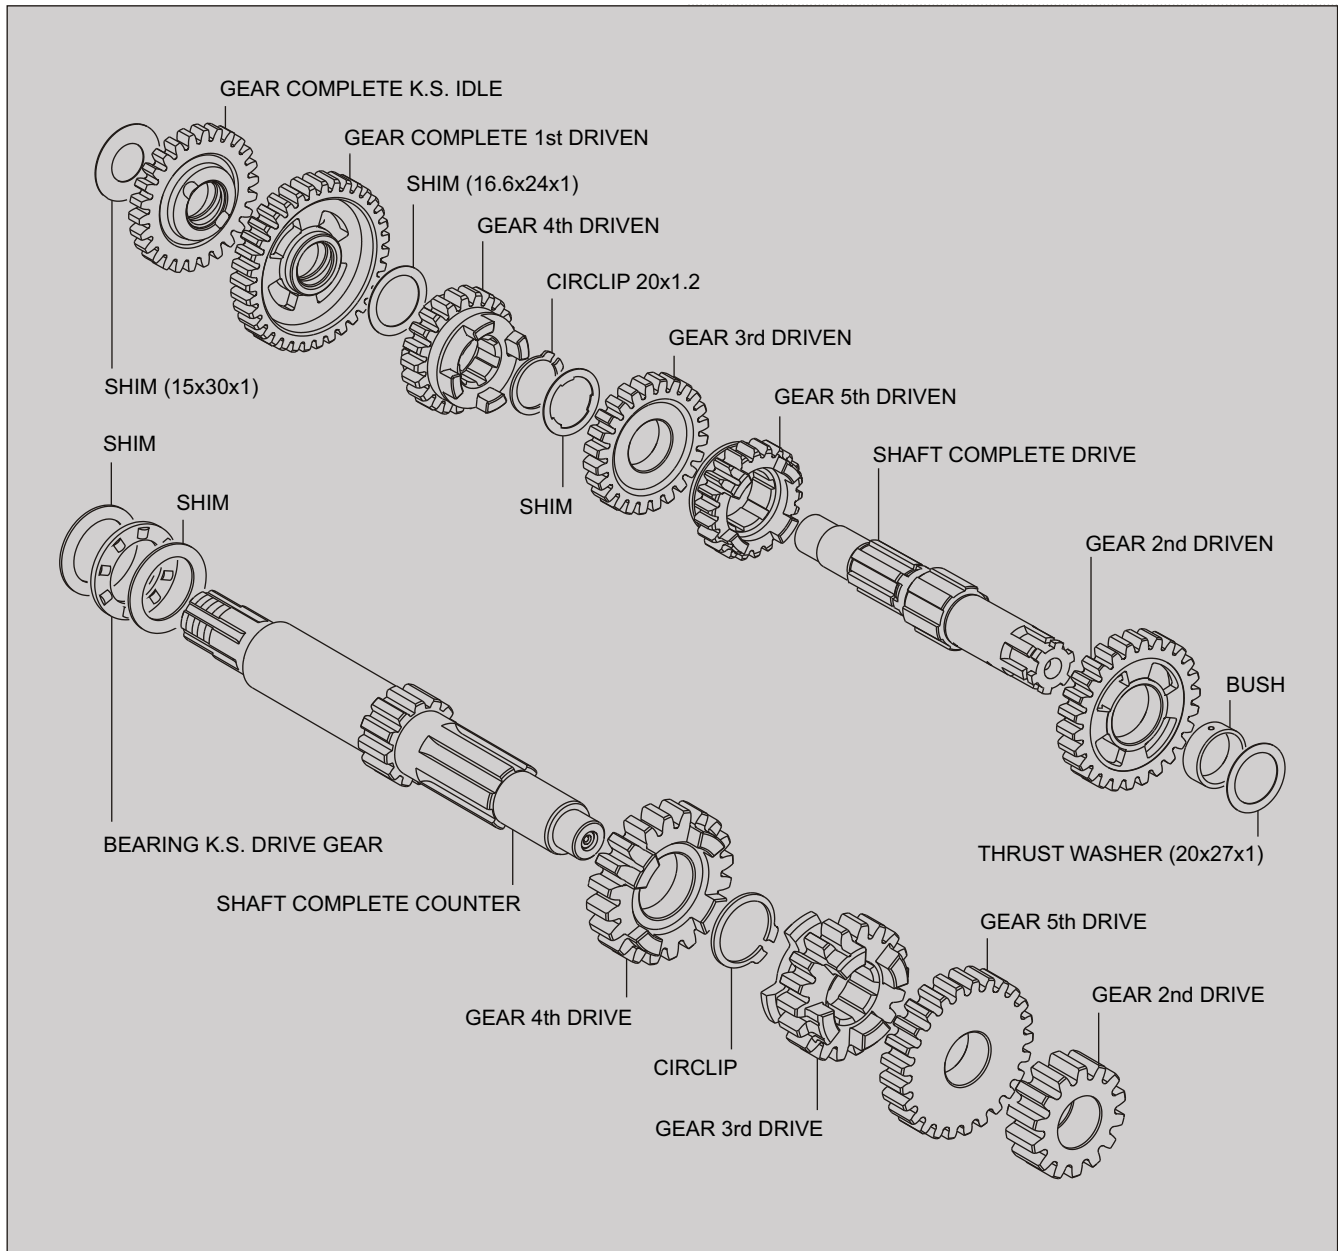

Fig. 3.119
- For reassembly, reverse the removal procedure. While reassembling gears, attention must be given to the locations and positions of washers and circlips. The exploded view clearly guides proper mounting of the gears, washers and circlips. (Fig. 3.119)